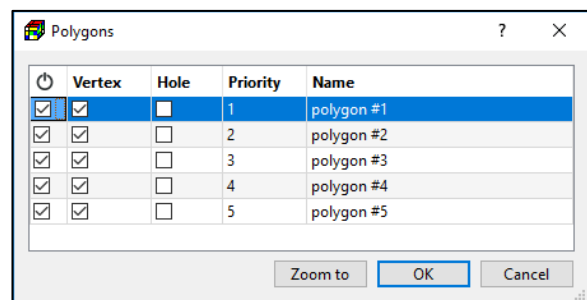

Figure 24. The Polygons dialog box
- **Manage Polygons:** Select this item to manage properties of existing polygons using the *Polygons* dialog box (Figure 24). This dialog box contains a table where each row represents a polygon with the following columns:
¹⁹ In this case, the polygon's priority number and hole settings (see Figure 24) are ignored.